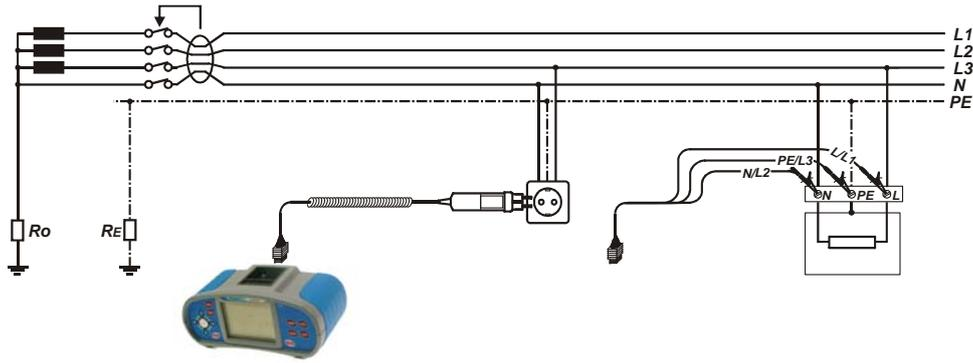

Figure 5.13: Connecting the plug commander and the universal test cable
- ❑ **Connect** test leads to the tested object (see figure 5.13).
- Connect** test leads to the tested object (see figure 5.13).
- **Connect** test leads to the tested object (see figure 5.13).
<ul style="list-style-type: none"> ❑ Select the RCD function. ❑ Set sub-function AUTO. ❑ Set test parameters (if necessary). ❑ Connect test cable to the instrument. ❑ Connect test leads to the tested object (see figure 5.13). ❑ Press the TEST key. 	Start of test